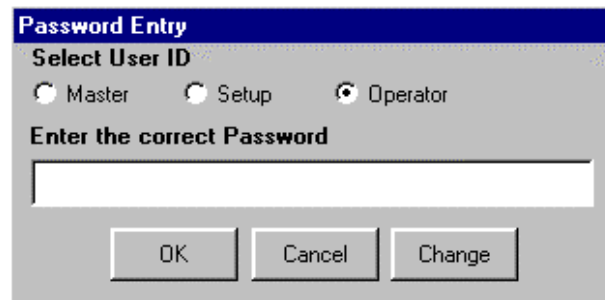

Figure 14.4 - Password Entry Box – How to Change the Active Password
- Click the **Lock Data** button on the main toolbar in order to display the password entry box. (Refer to Figure 14.4)